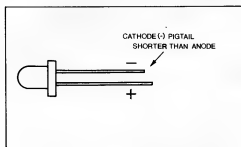

Figure 30. Polarity Marking on LED
6. Place new LED in LED holder with *shorter* (cathode) pigtail toward side connected to "Clear" switch (see Fig. 30 and 31). This is important — indicator cannot light if con-